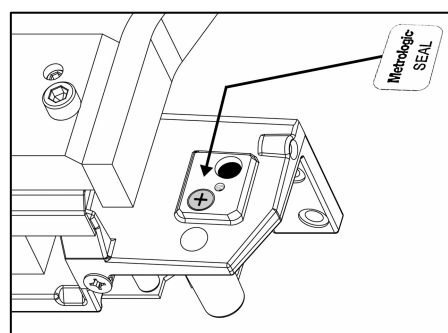

Figure 55.
2. Apply the adhesive calibration security seal over the calibration button access hole (see *Figure 55*).